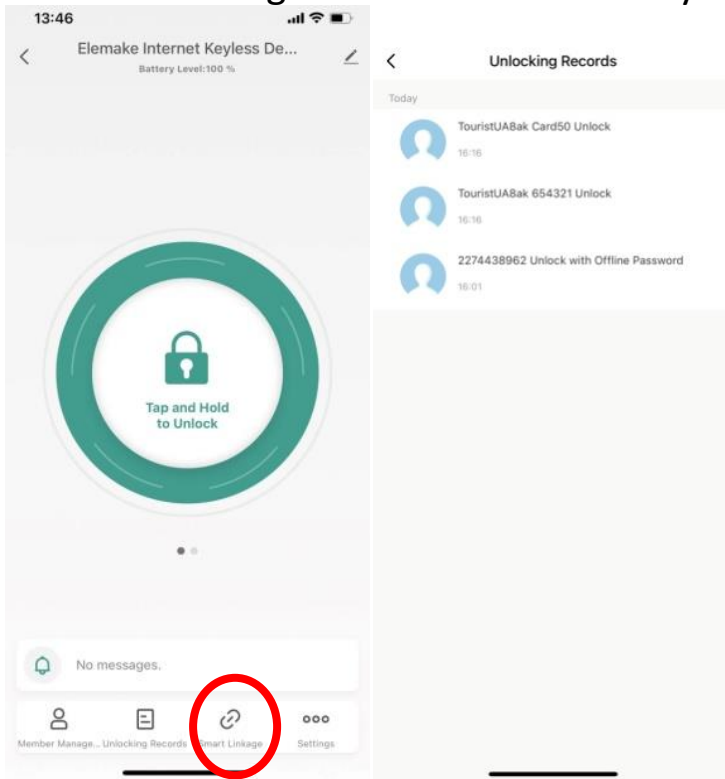

Figure P-8
(8) Record of deadbolt unlocking history(See Figure P-8)